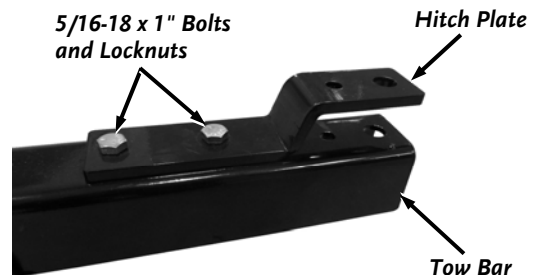

Figure 6
3. Attach the Hitch Plate to the Tow Bar with Two 5/16-18 x 1" Bolts and Locknuts using two 1/2" Wrenches (**Figure 6**).